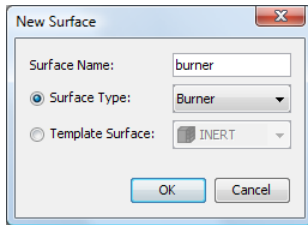

Figure 2.3. Inserting a new burner surface
3. In the **Surface Name** box, type `burner`, Figure 2.3.